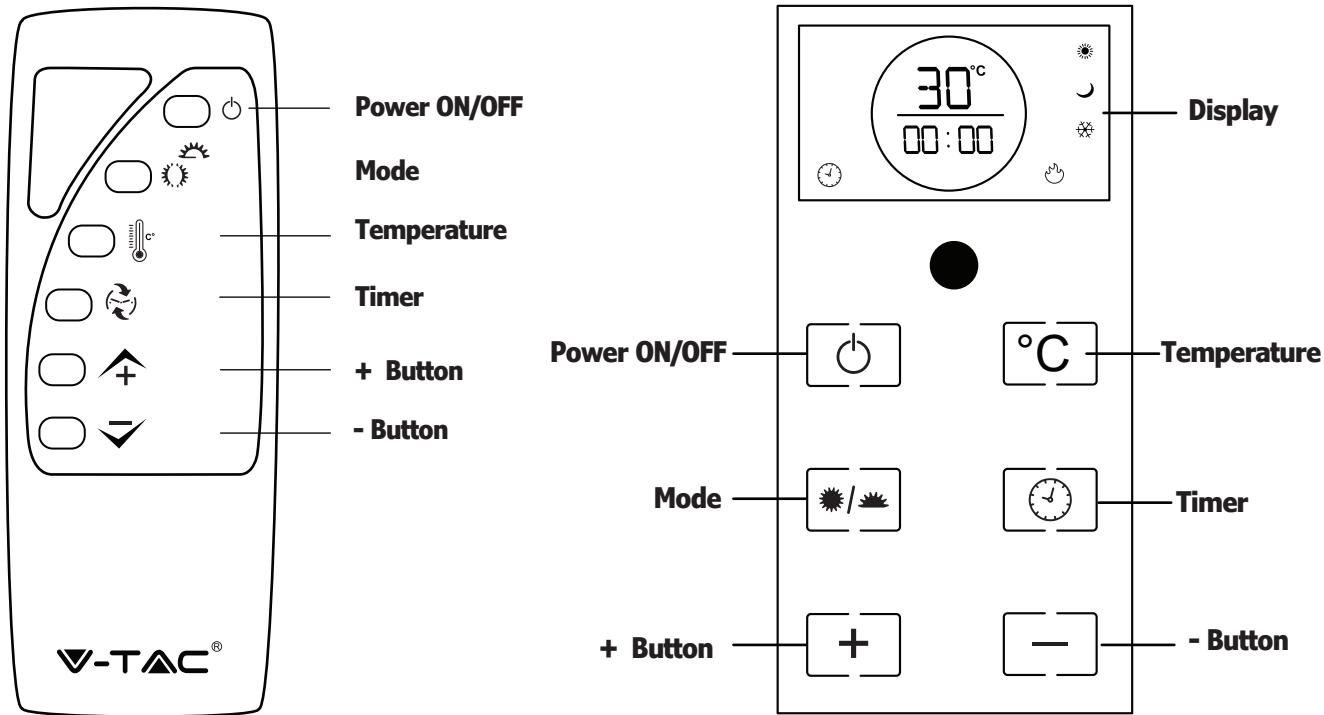

FIGURE 2
5. Press the Mode button on the control panel/ remote control (Figure 2 and Table 1), the device will start in Low temperature heating mode. You can switch between Frost-Low temperature and High temperature mode by using the mode button on the control panel/ remote control (Figure 2 and Table 1)
Modes: Tap on the Mode button on the touch panel/ remote control (Figure 2 and Table 1) to switch between Frost-Low-High modes.